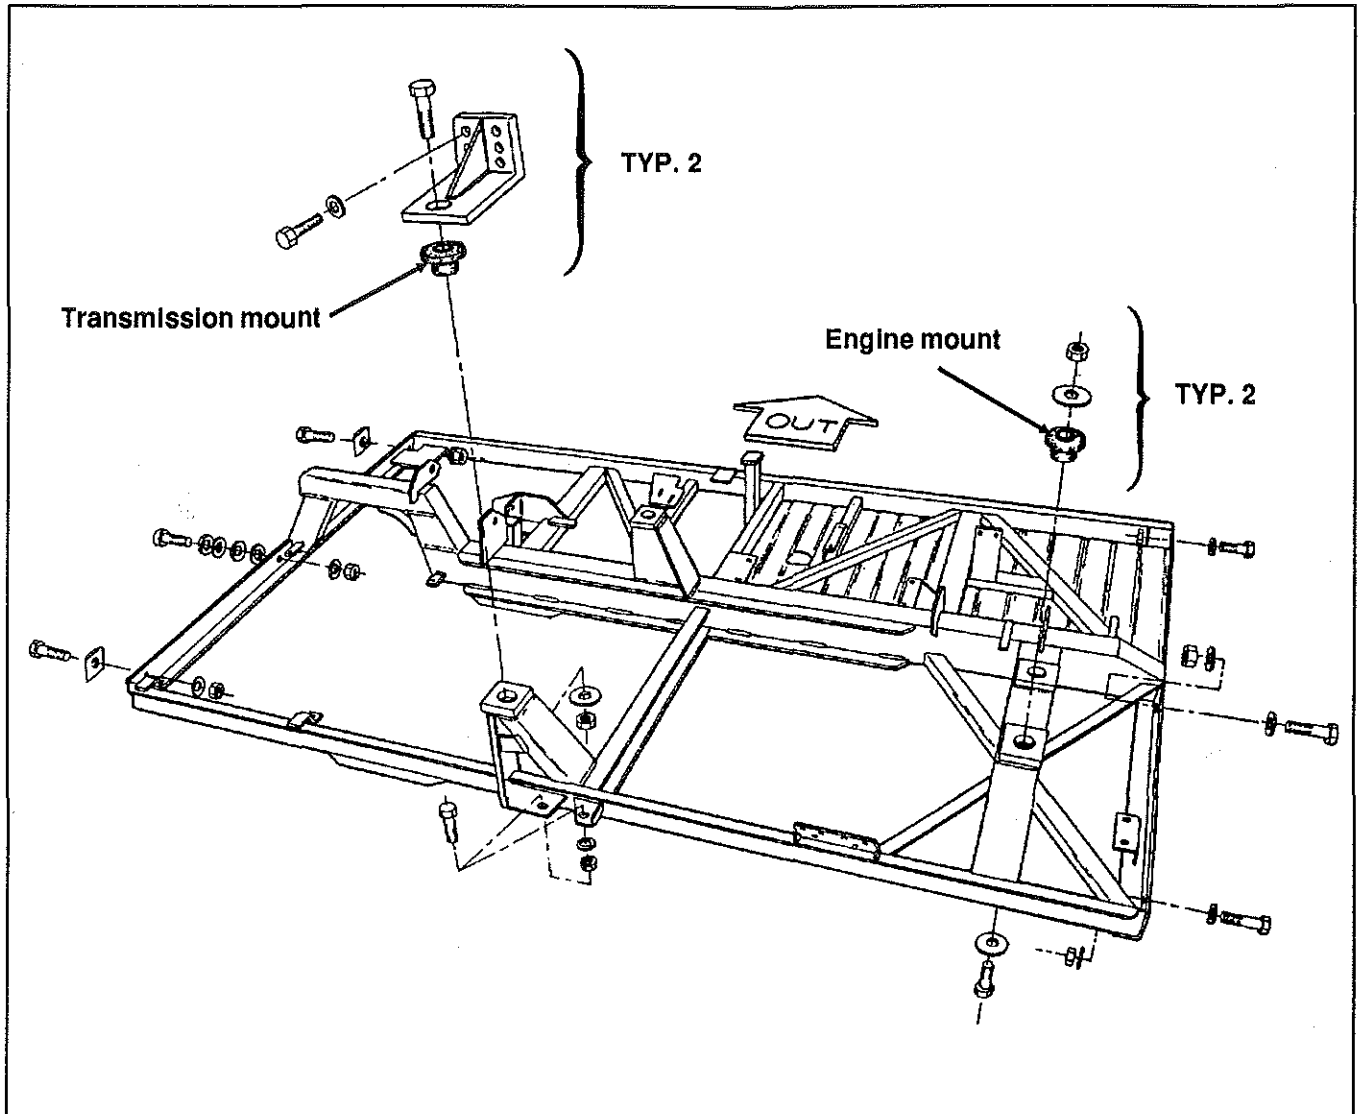

FIG. 12 - Power plant cradle
41. Remove the eight (8) retaining bolts and nuts securing the power plant cradle to the vehicle frame as detailed in figure 12.
27. Remove the four (4) engine and transmission mounting bolts (refer to fig. 12 for location of engine and transmission mounts.)
29. Use a spreader bar with a suitable sling and an adequate chain hoist to lift the assembly from its base. To prevent bending of the engine lifter brackets, the lifting device should be adjusted so the lifting hooks are vertical. To ensure proper weight distribution, the three (3) engine lifter brackets should be used to lift the engine and transmission assembly.